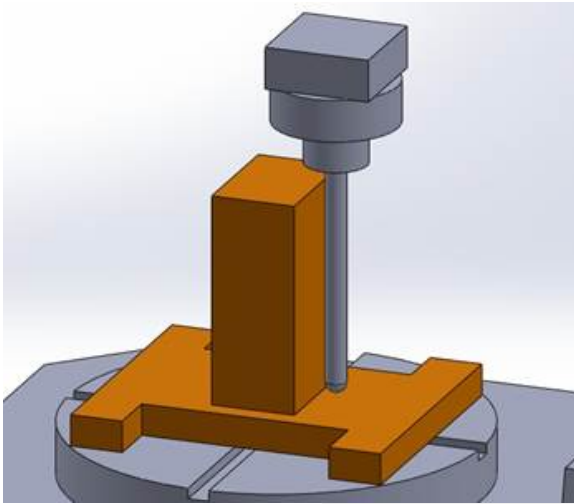
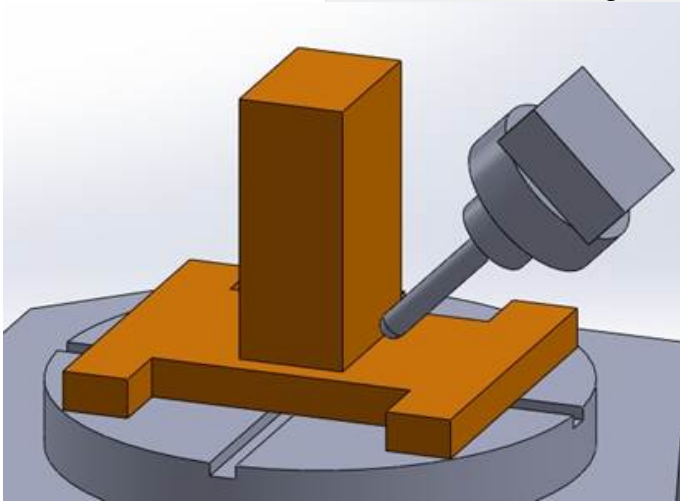

Fig.2
Fig.3
- When machining a deeper feature with 3-axis machines, it requires to elongate the tool to avoid the collision between tool holder and workpiece, thus the holding part of the tool will be reduced and the tool rigidity will drop (Fig.2). With 5-axis machines, it's able to adjust the tool angle when facing such situations, the holding part can be remained longer and the tool rigidity will be better, the precision will also be higher (Fig.3).